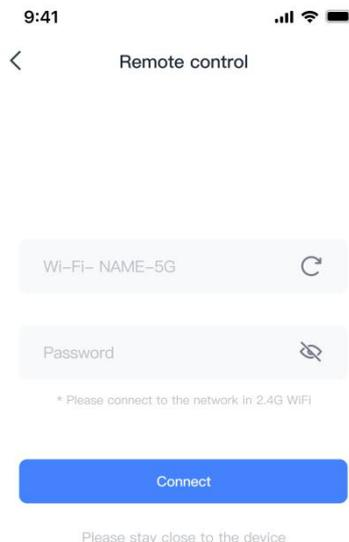

Figure 8.6.1
- If the user is binding the device for the first time, he needs to configure the network for the device first (as shown in Figure 8.6.1)